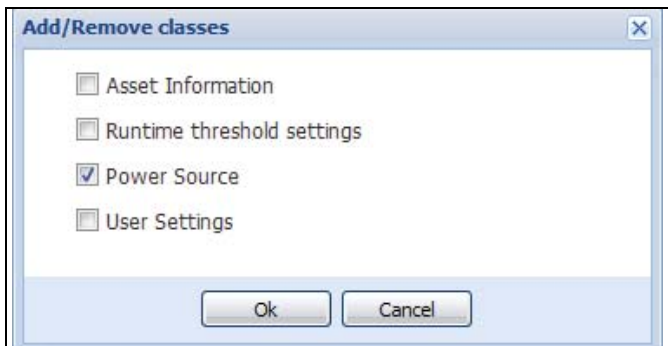

Figure 235. Add/Remove Classes
4. In this example case, select (check) the **Power Source** checkbox to add the Power Source class, and then click **OK** (see Figure 235).